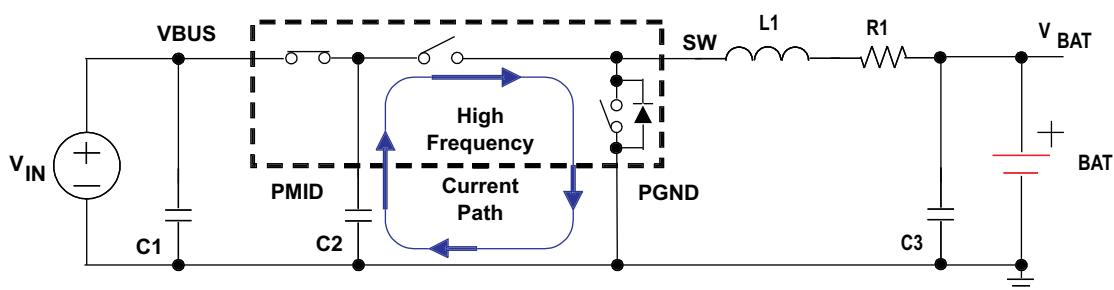
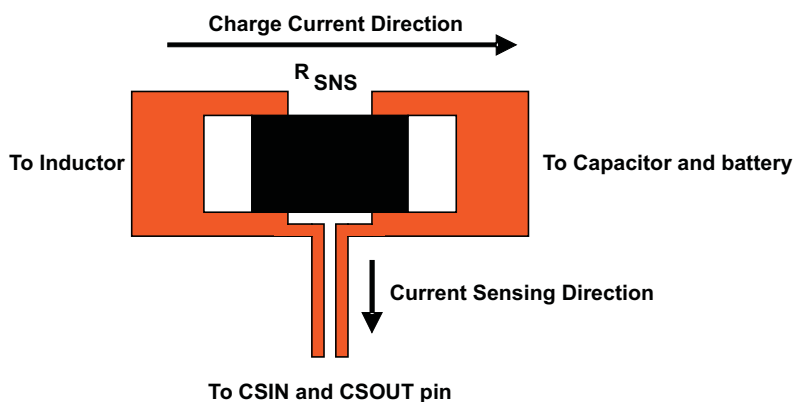

Figure 37. High Frequency Current Path
Figure 38. Sensing Resistor PCB Layout
- To obtain optimal performance, the power input capacitors, connected from input to PGND, should be placed as close as possible to the bq24150A/1A. The output inductor should be placed close to the IC and the output capacitor connected between the inductor and PGND of the IC. The intent is to minimize the current path loop area from the SW pin through the LC filter and back to the PGND pin. To prevent high frequency oscillation problems, proper layout to minimize high frequency current path loop is critical (see Figure 37). The sense resistor should be adjacent to the junction of the inductor and output capacitor. Route the sense leads connected across the RSNS back to the IC, close to each other (minimize loop area) or on top of each other on adjacent layers (do not route the sense leads through a high-current path, see Figure 38).